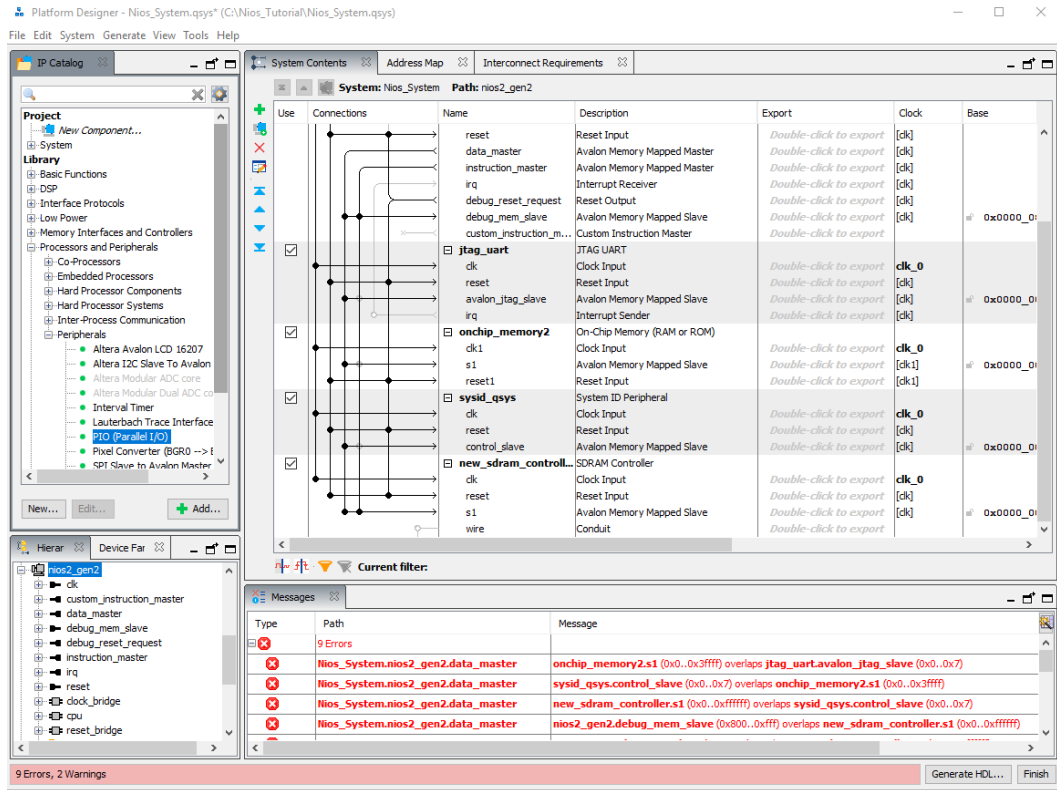

Figure 1-27 Adding PIO to system
18.) We will now start connecting our PIO's to send data to and from the CPU to the FPGA. Choose **Library** → **Processors and Peripherals** → **PIO (Parallel I/O)** as shown in figure 1-27 and 1-28. We will be using 32 bit In Out PIO's for what we will be doing. Choose accordingly depending on your use of the PIO.